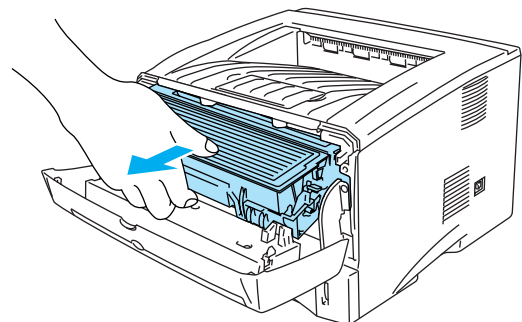

Fig. 5-8
- (1) Press the cover release button and then open the front cover.
- (2) Pull out the drum unit assembly. (Drum unit with toner cartridge). (Fig.5-8)